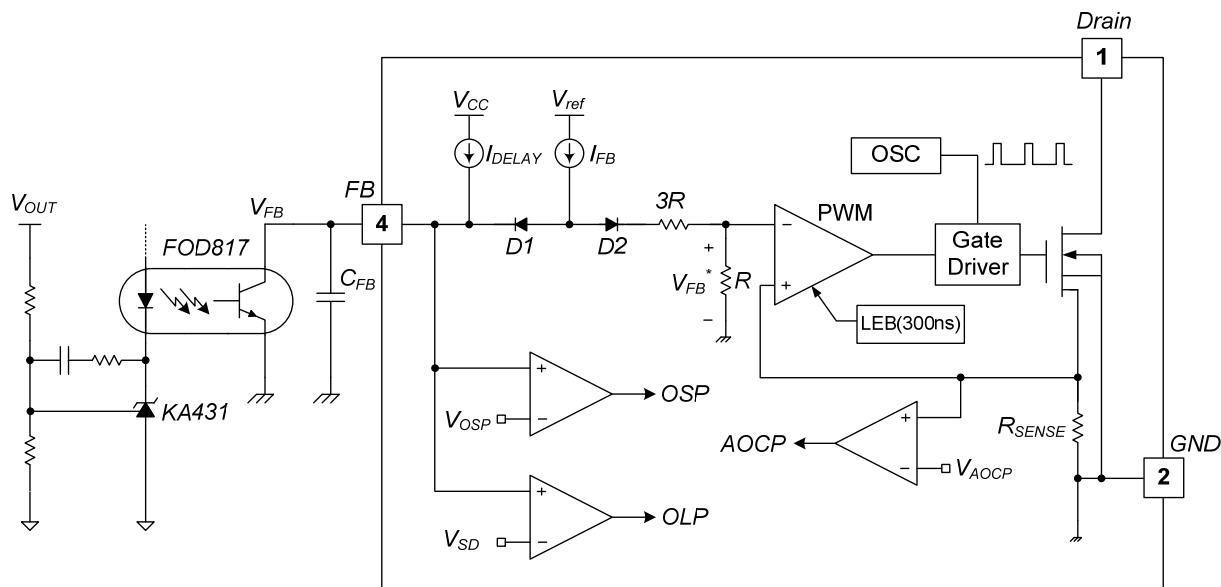

Figure 18. Pulse Width Modulation Circuit
3. Feedback Control: This device employs current-mode control, as shown in Figure 18. An opto-coupler (such as the FOD817) and shunt regulator (such as the KA431) are typically used to implement the feedback network. Comparing the feedback voltage with the voltage across the R_{SENSE} resistor makes it possible to control the switching duty cycle. When the reference pin voltage of the shunt regulator exceeds the internal reference voltage of 2.5 V, the opto-coupler LED current increases, pulling down the feedback voltage and reducing drain current. This typically occurs when the input voltage is increased or the output load is decreased.
3.1 Pulse-by-Pulse Current Limit: Because current-mode control is employed, the peak current through the SenseFET is limited by the inverting input of the PWM comparator (V_{FB}^*), as shown in Figure 18. Assuming that the 90 μ A current source flows only through the internal resistor ($3R + R = 27 \text{ k}\Omega$), the cathode voltage of diode D2 is about 2.5 V. Since D1 is blocked when the feedback voltage (V_{FB}) exceeds 2.5 V, the maximum voltage of the cathode of D2 is clamped at this voltage. Therefore, the peak value of the current through the SenseFET is limited.